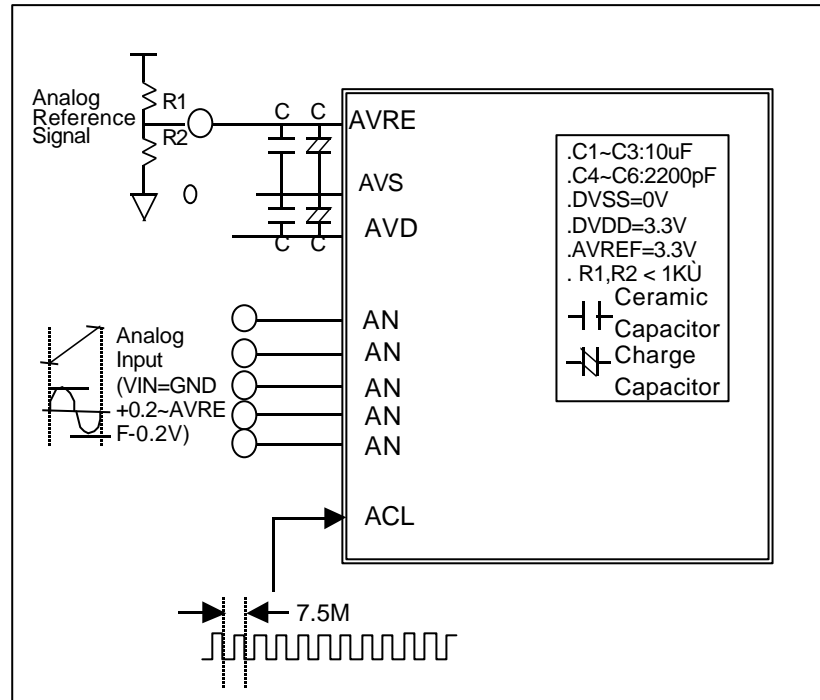

Figure 13.3 Example of Analog Input Circuit
5. Note on Noise: To prevent damage from surges and other abnormal voltages at the analog input pins ( $AN_0$  to  $AN_4$ ) and analog reference voltage pin ( $V_{REF}$ ), connect a protection circuit like the one in figure 13.3 between  $AV_{CC}$  and  $AV_{SS}$ . The bypass capacitors connected to  $AV_{CC}$  and  $V_{REF}$  and the filter capacitors connected to  $AN_0$  to  $AN_4$  must be connected to  $AV_{SS}$ .